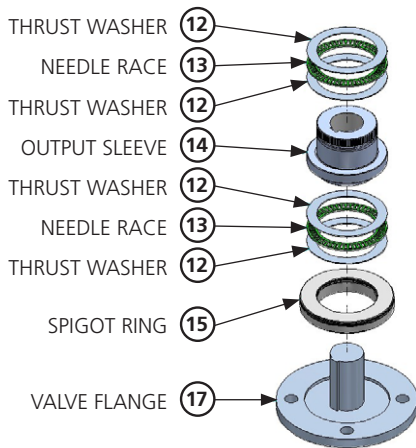
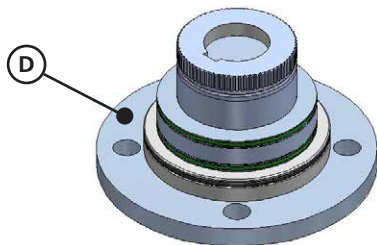

Figure 12 – Valve stem assembly
Figure 13 – Valve stem (assembled)
Check that the diameter of the male spigot supplied with the gearbox (Part 15 in Figure 12) matches the female spigot recess in the valve bonnet flange before assembling the gearbox onto the valve.
In addition to the points in Section 7.2.1, it is recommended that the machined output sleeve assembly is assembled onto the valve stem first and then the gearbox lowered onto the output sleeve assembly. See Figure 12 and Figure 13 for assembly details.
Fit the machined output sleeve (14), thrust bearings (12 & 13) and baseplate spigot ring (15) on the valve shaft as shown in the Figure 12. Bearings should be lubricated with the appropriate grease (see Table 6). Grease the bearings, output sleeve and valve stem. Note that the spigot ring has an internal and external seal that should also be greased.